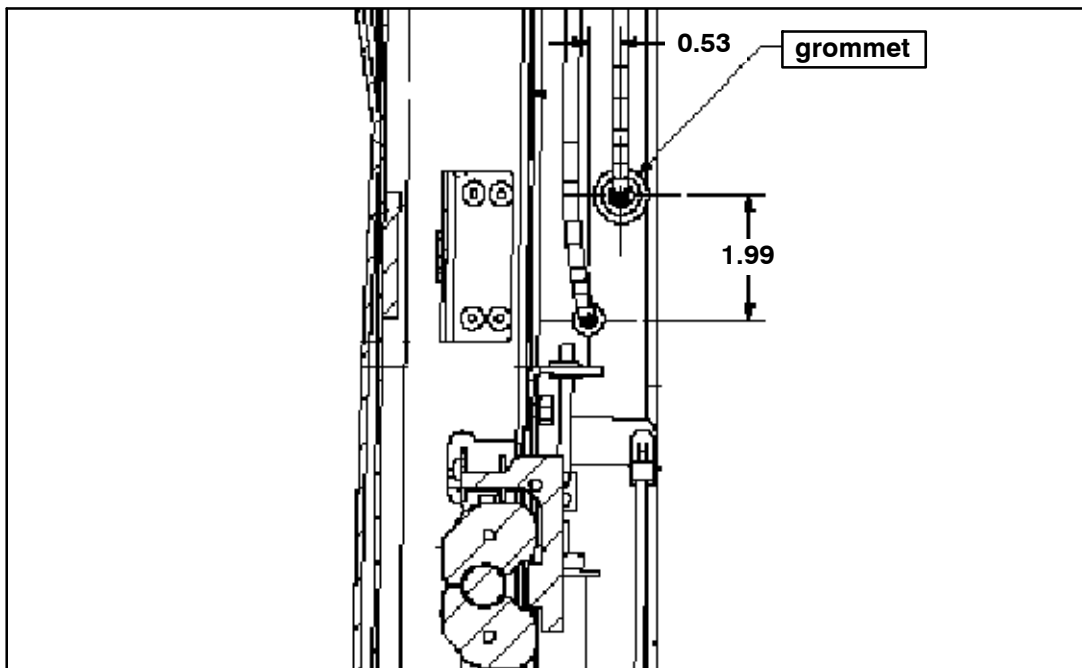

Figure 19.
22. Using the two dimensions (1.99 and 0.53) shown in Figure 19, and a 0.62 drill bit, drill a hole into the frame. Install grommet, p/n 19-12-4, in hole.